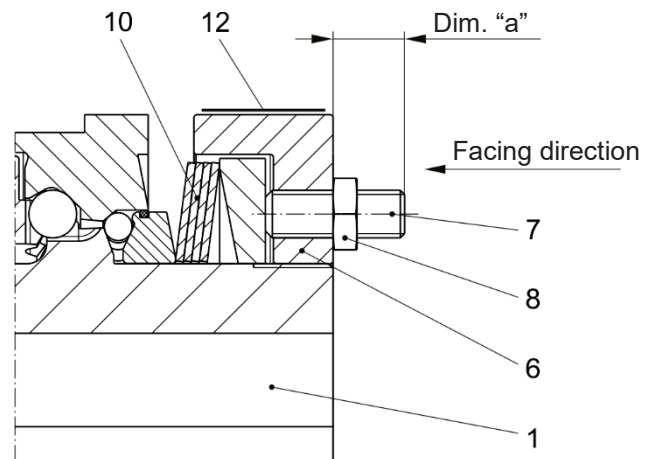

Fig. 12
Adjustment is carried out via dimension "a" by turning the set screws (Item 7, Fig. 12).
Turning the set screws (7) clockwise causes a reduction in torque (Fig. 13, dimension "a -" acc. adjustment table (12) and Fig. 14). Turning it anti-clockwise causes an increase in torque (Fig. 13, dimension "a +" acc. adjustment table (12) and Fig. 14). You should be facing the adjusting nut (6) as shown in Fig. 12.
- For dimension "a", see the adjustment table (Item 12, Fig. 14) (The adjustment table (12) is glued onto the outer diameter of the adjusting nut (6), see Fig. 12).
- Counter (secure) the set screws (6 pieces, Item 7) again using hexagon nuts (8).